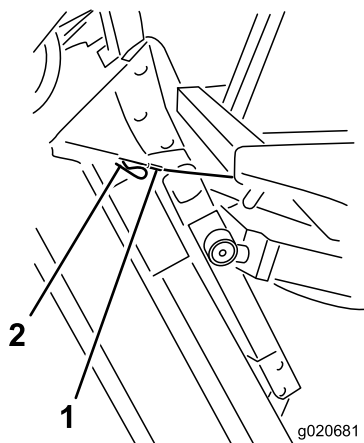

Figure 75
6. Hold the cutting unit upright, fit the cable end over the pin on the cutting unit lift arm and secure it with the hairpin cotter (Figure 75).